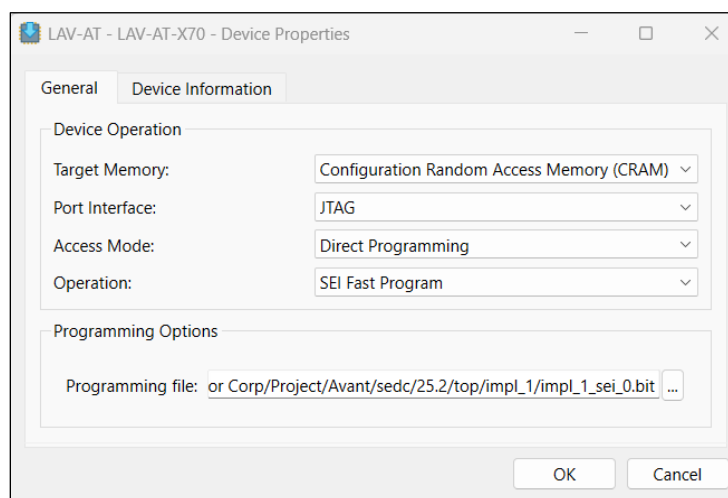

Figure 7.10. Setting Device Properties for 1-bit SEI Bitstream
1. Using the Radiant Programmer tool, configure the device properties as shown in Figure 7.10, then click **OK**.
1. Using the Radiant Programmer, configure the device properties as shown in Figure 7.10 (except replace the 1-bit SEI bitstream with the 2-bit SEI bitstream), then click **OK**.